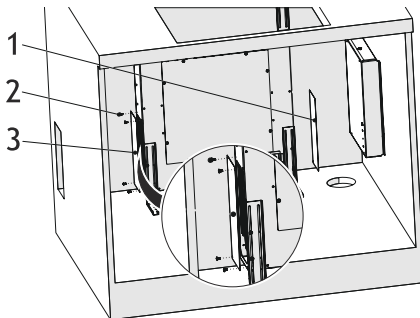

Fig. 20
11. ➔ Remove air exhaust cover plate (Fig. 20).